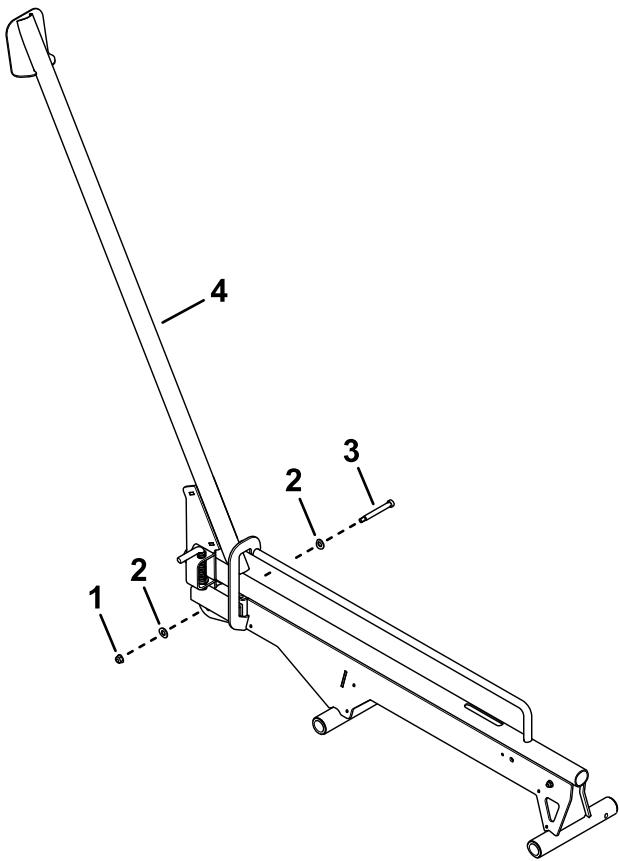

**Figure 5**
7. Connect the spring to the wheel stop and bolt inside of the rail assembly (Figure 5).